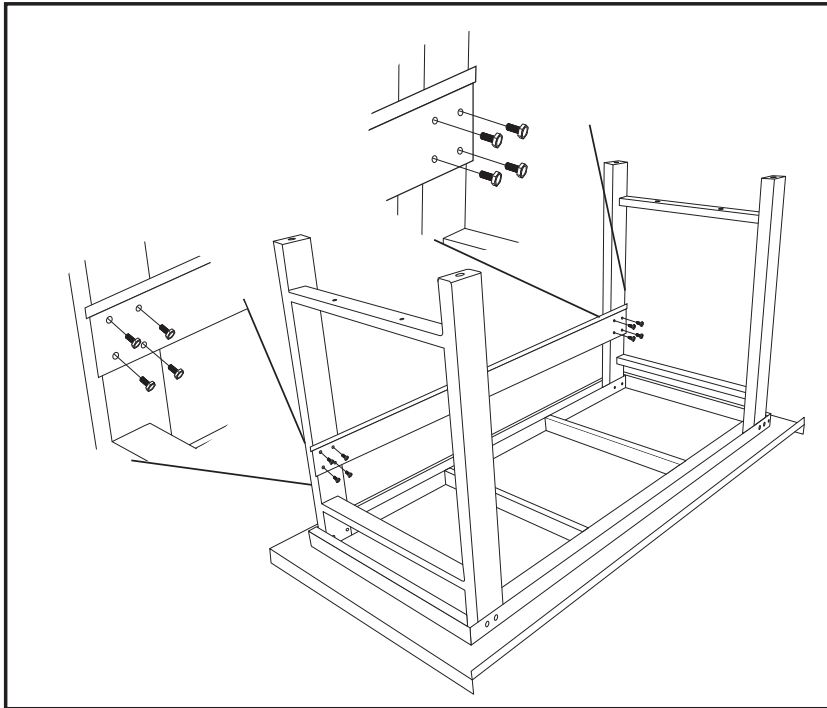

Figure 3
3. Slip an M6 washer (#3) onto each M6*20 bolt (#4) then attach the beam (#9) between the two sets of legs on the backside (side with the flange) of the workbench. Tighten them finger tight. (see figure 3)